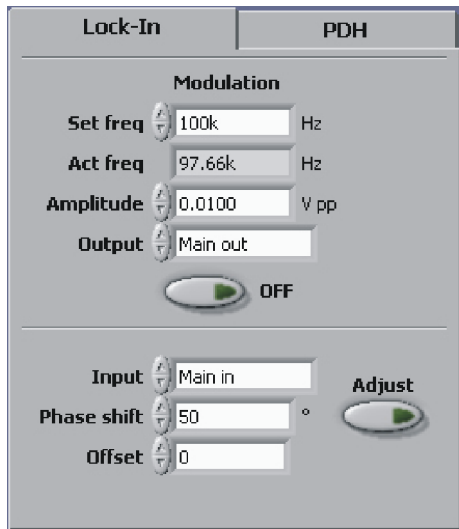

Figure 48 Lock-In module with typical parameters
22. Configure the parameters for the **Lock-In** module (see Figure 48). The modulation set frequency (Set freq) must be chosen depending on the spectral resonance. A reasonable choice is about 1/10 of the characteristic linewidth. In this example a frequency of about 100 kHz is used. Due to the specific architecture of the DigiLock 110 only discrete frequencies are possible. Type in the desired one and the system will automatically determine the nearest one available (Act freq).